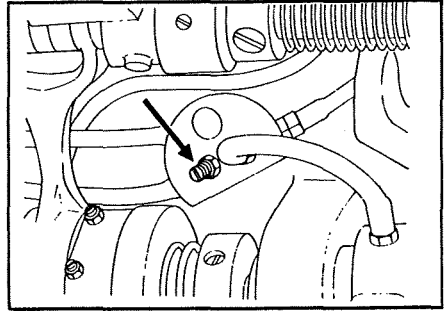

Fig. 3
The amount of oil to lubricate the face plate mechanism has normally been adjusted at our factory before shipment. If necessary, you may adjust it by turning the adjusting screw shown in the Fig.3. The stable amount of oil is constantly supplied to the face plate mechanism from the thread take-up lever shaft through the oil wicks.
- (1) 2 oil wicks ( $3\phi$ ) must be passed through the thread take-up lever shaft.
- (2) The oil adjusting screw (Fig.3) located under the machine bed should have been screwed in by 3 or 4 turns.
- (3) The tips of oil wicks sheathed with aluminium pipe are very slightly touching the surfaces of the needle crank rod and the needle bar.
- (4) To check the amount of oil: